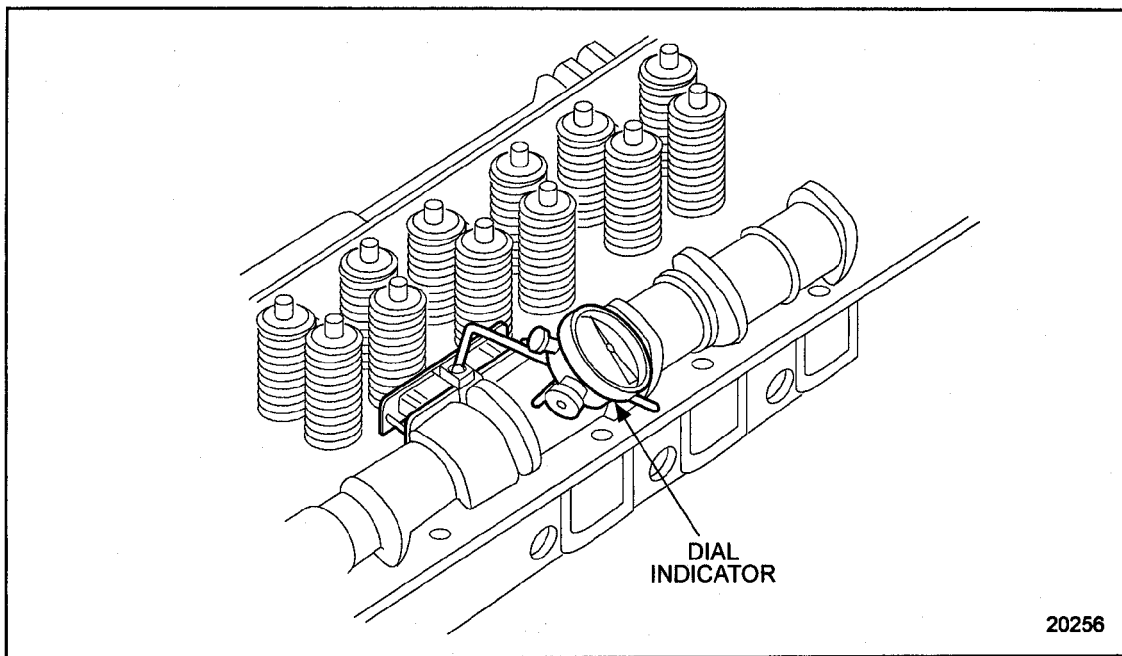

Figure 1-345 Camshaft Run-out Measurement
- [n] Using a dial indicator with magnetic base, check the run-out of the camshaft at the No. 4 bearing journal. See Figure 1-345.